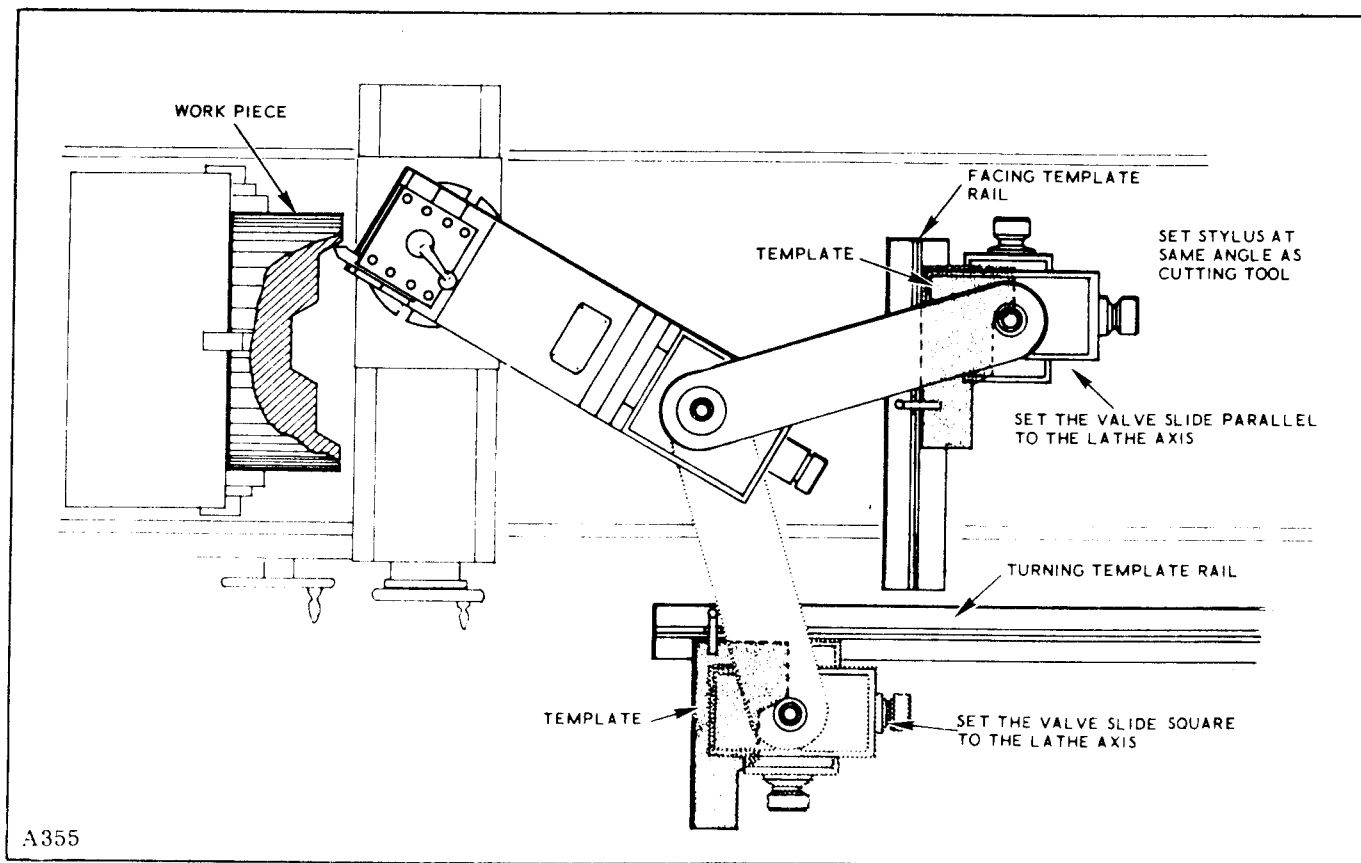

Figure 3-16. Alternate Methods of Installing Mark IIA, III, IV, V and VI Series for Facing Operation
- d. The Mark IIA, III, IV, V and VI Series may be installed to accommodate any required tracer slide angle. Figure 3-16 shows alternate methods of installation for facing operations. Use of the facing template rail whenever possible is the preferred method.